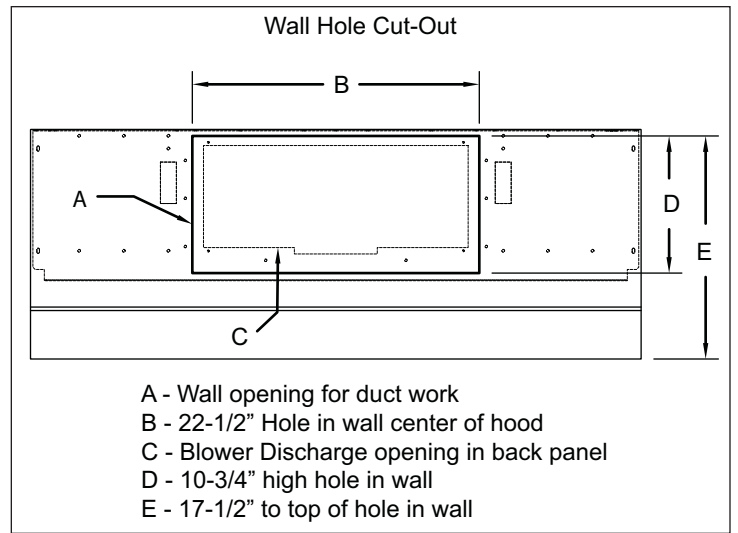

Figure 2
2. Cut opening into wall. This opening must be large enough for the supplied transition or custom duct work to fit through when attached to the wall hood (See Figure 2).